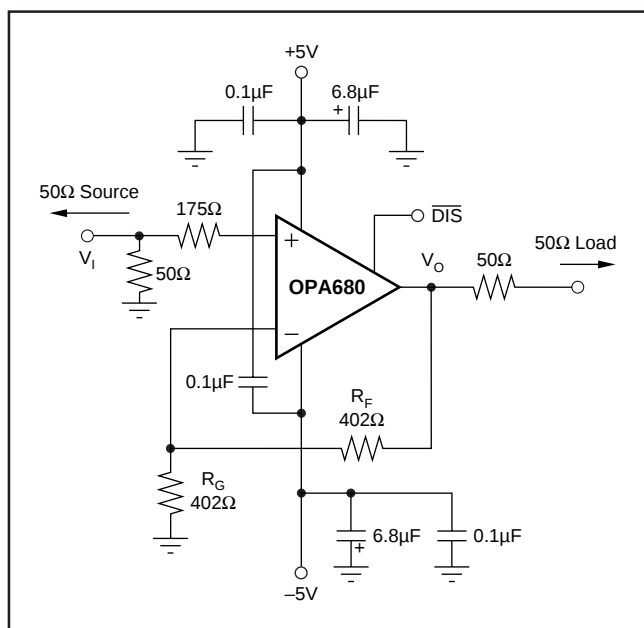
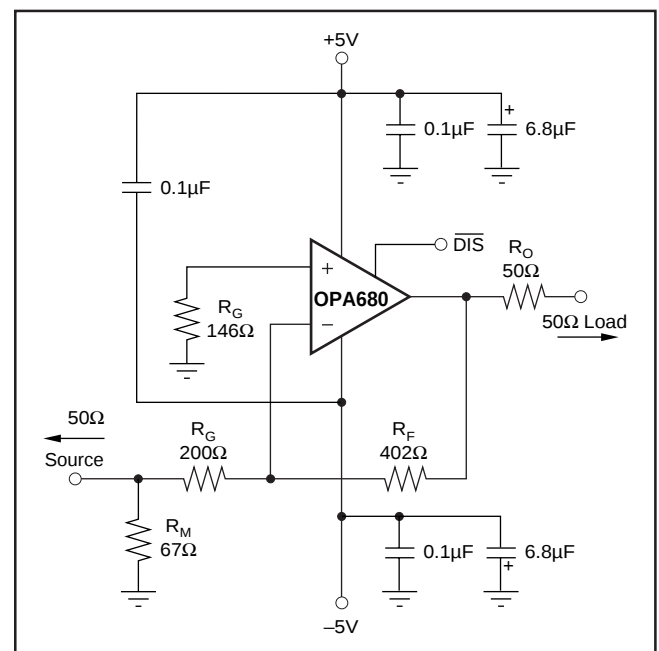

FIGURE 1. DC-Coupled, $G = +2$, Bipolar Supply, Specification and Test Circuit.
FIGURE 8. Gain of -2 Example Circuit.
At $T_A = +25^\circ C$, $G = +2$, $R_F = 402\Omega$, and $R_L = 100\Omega$, unless otherwise noted. See Figure 1.
Figure 1 shows the DC-coupled, gain of +2, dual power supply circuit configuration used as the basis of the $\pm 5\text{V}$ Specifications and Typical Performance Curves. For test purposes, the input impedance is set to 50Ω with a resistor to ground and the output impedance is set to 50Ω with a series output resistor. Voltage swings reported in the specifications are taken directly at the input and output pins, while output powers (dBm) are at the matched 50Ω load. For the circuit of Figure 1, the total effective load will be $100\Omega \parallel 804\Omega$. The disable control line is typically left open to guarantee normal amplifier operation. Two optional components are included in Figure 1. An additional resistor (175Ω) is included in series with the non-inverting input. Combined with the 25Ω DC source resistance looking back towards the signal generator, this gives an input bias current cancelling resistance that
A good rule of thumb is to target the parallel combination of R_F and R_G (Figure 1) to be less than approximately 300Ω . The combined impedance $R_F \parallel R_G$ interacts with the inverting input capacitance, placing an additional pole in the feedback network and thus, a zero in the forward response. Assuming a $2pF$ total parasitic on the inverting node, holding $R_F \parallel R_G < 300\Omega$ will keep this pole above $250MHz$. By itself, this constraint implies that the feedback resistor R_F can increase to several $k\Omega$ at high gains. This is acceptable as long as the pole formed by R_F and any parasitic capacitance appearing in parallel is kept out of the frequency range of interest.
Voltage feedback op amps exhibit decreasing closed-loop bandwidth as the signal gain is increased. In theory, this relationship is described by the Gain Bandwidth Product (GBP) shown in the specifications. Ideally, dividing GBP by the non-inverting signal gain (also called the Noise Gain, or NG) will predict the closed-loop bandwidth. In practice, this only holds true when the phase margin approaches 90° , as it does in high gain configurations. At low gains (increased feedback factors), most amplifiers will exhibit a more complex response with lower phase margin. The OPA680 is compensated to give a slightly peaked response in a non-inverting gain of 2 (Figure 1). This results in a typical gain of +2 bandwidth of $220MHz$, far exceeding that predicted by dividing the $300MHz$ GBP by 2. Increasing the gain will cause the phase margin to approach 90° and the bandwidth to more closely approach the predicted value of (GBP/NG) . At a gain of +10, the $30MHz$ bandwidth shown in the Typical Specifications agrees with that predicted using the simple formula and the typical GBP of $300MHz$.
Frequency response in a gain of +2 may be modified to achieve exceptional flatness simply by increasing the noise gain to 2.5. One way to do this, without affecting the +2 signal gain, is to add an 804Ω resistor across the two inputs in the circuit of Figure 1. A similar technique may be used
Since the OPA680 is a general purpose, wideband voltage feedback op amp, all of the familiar op amp application circuits are available to the designer. Inverting operation is one of the more common requirements and offers several performance benefits. Figure 8 shows a typical inverting configuration where the I/O impedances and signal gain from Figure 1 are retained in an inverting circuit configuration.
amplifier output. For an inverting gain of 2, setting R_G to 50Ω for input matching eliminates the need for R_M but requires a 100Ω feedback resistor. This has the interesting advantage that the noise gain becomes equal to 2 for a 50Ω source impedance—the same as the non-inverting circuits considered above. However, the amplifier output will now see the 100Ω feedback resistor in parallel with the external load. In general, the feedback resistor should be limited to the 200Ω to $1.5k\Omega$ range. In this case, it is preferable to increase both the R_F and R_G values as shown in Figure 8, and then achieve the input matching impedance with a third resistor (R_M) to ground. The total input impedance becomes the parallel combination of R_G and R_M .
The second major consideration, touched on in the previous paragraph, is that the signal source impedance becomes part of the noise gain equation and hence influences the bandwidth. For the example in Figure 8, the R_M value combines in parallel with the external 50Ω source impedance, yielding an effective driving impedance of $50\Omega \parallel 67\Omega = 28.6\Omega$. This impedance is added in series with R_G for calculating the noise gain (NG). The resultant NG is 2.8 for Figure 8, as opposed to only 2 if R_M could be eliminated as discussed above. The bandwidth will therefore be slightly lower for the gain of -2 circuit of Figure 8 than for the gain of $+2$ circuit of Figure 1.
The third important consideration in inverting amplifier design is setting the bias current cancellation resistor on the non-inverting input (R_B). If this resistor is set equal to the total DC resistance looking out of the inverting node, the output DC error, due to the input bias currents, will be reduced to (Input Offset Current) $\cdot R_F$. If the 50Ω source impedance is DC-coupled in Figure 8, the total resistance to ground on the inverting input will be 228Ω . Combining this in parallel with the feedback resistor gives the $R_B = 146\Omega$ used in this example. To reduce the additional high frequency noise introduced by this resistor, it is sometimes bypassed with a capacitor. As long as $R_B < 350\Omega$, the capacitor is not required since the total noise contribution of all other terms will be less than that of the op amp's input noise voltage. As a minimum, the OPA680 requires an R_B value of 50Ω to damp out parasitic-induced peaking—a direct short to ground on the non-inverting input runs the risk of a very high frequency instability in the input stage.
The OPA680 provides good distortion performance into a 100Ω load on $\pm 5V$ supplies. Relative to alternative solutions, it provides exceptional performance into lighter loads and/or operating on a single +5V supply. Generally, until the fundamental signal reaches very high frequency or power levels, the 2nd harmonic will dominate the distortion with a negligible 3rd harmonic component. Focusing then on the 2nd harmonic, increasing the load impedance improves distortion directly. Remember that the total load includes the feedback network; in the non-inverting configuration (Figure 1) this is sum of $R_F + R_G$, while in the inverting configuration, it is just R_F . Also, providing an additional supply decoupling capacitor (0.1μF) between the supply pins (for bipolar operation) improves the 2nd-order distortion slightly (3dB to 6dB).
Evaluating these two equations for the OPA680 circuit and component values shown in Figure 1 will give a total output spot noise voltage of $11\text{nV}/\sqrt{\text{Hz}}$ and a total equivalent input spot noise voltage of $5.5\text{nV}/\sqrt{\text{Hz}}$. This is including the noise added by the bias current cancellation resistor (175Ω) on the non-inverting input. This total input-referred spot noise voltage is only slightly higher than the $4.8\text{nV}/\sqrt{\text{Hz}}$ specification for the op amp voltage noise alone. This will be the case
as long as the impedances appearing at each op amp input are limited to the previously recommended maximum value of 300Ω . Keeping both $(R_F \parallel R_G)$ and the non-inverting input source impedance less than 300Ω will satisfy both noise and frequency response flatness considerations. Since the resistor-induced noise is relatively negligible, additional capacitive decoupling across the bias current cancellation resistor (R_B) for the inverting op amp configuration of Figure 8 is not required.
The balanced input stage of a wideband voltage feedback op amp allows good output DC accuracy in a wide variety of applications. The power supply current trim for the OPA680 gives even tighter control than comparable products. Although the high speed input stage does require relatively high input bias current (typically $14\mu\text{A}$ out of each input terminal), the close matching between them may be used to reduce the output DC error caused by this current. The total output offset voltage may be considerably reduced by matching the DC source resistances appearing at the two inputs. This reduces the output DC error due to the input bias currents to the offset current times the feedback resistor. Evaluating the configuration of Figure 1, using worst-case $+25^\circ\text{C}$ input offset voltage and current specifications, gives a worst-case output offset voltage equal to: $-(NG = \text{non-inverting signal gain})$